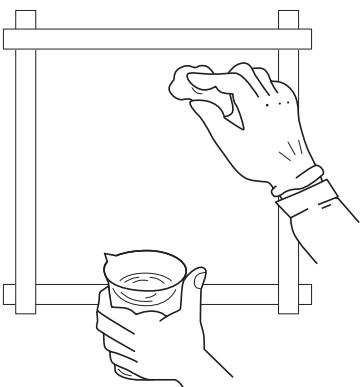

FIG.4.15 SALINITY SAMPLING
- (2) Sampling procedure
- ① Mark off a division of 0.25m^2 (e.g. $50 \times 50\text{ cm}$) with masking tape after correctly measuring with a measuring scale.
- ② Put on a rubber glove on a hand.
- ③ Put 150 ml of deionized water into a polyethylene beaker.
- ④ Wet gauze folded in a proper size with water in the beaker.
- ⑤ Wipe the measuring surface in a parallel direction with wet gauze (see FIG. 4.15).